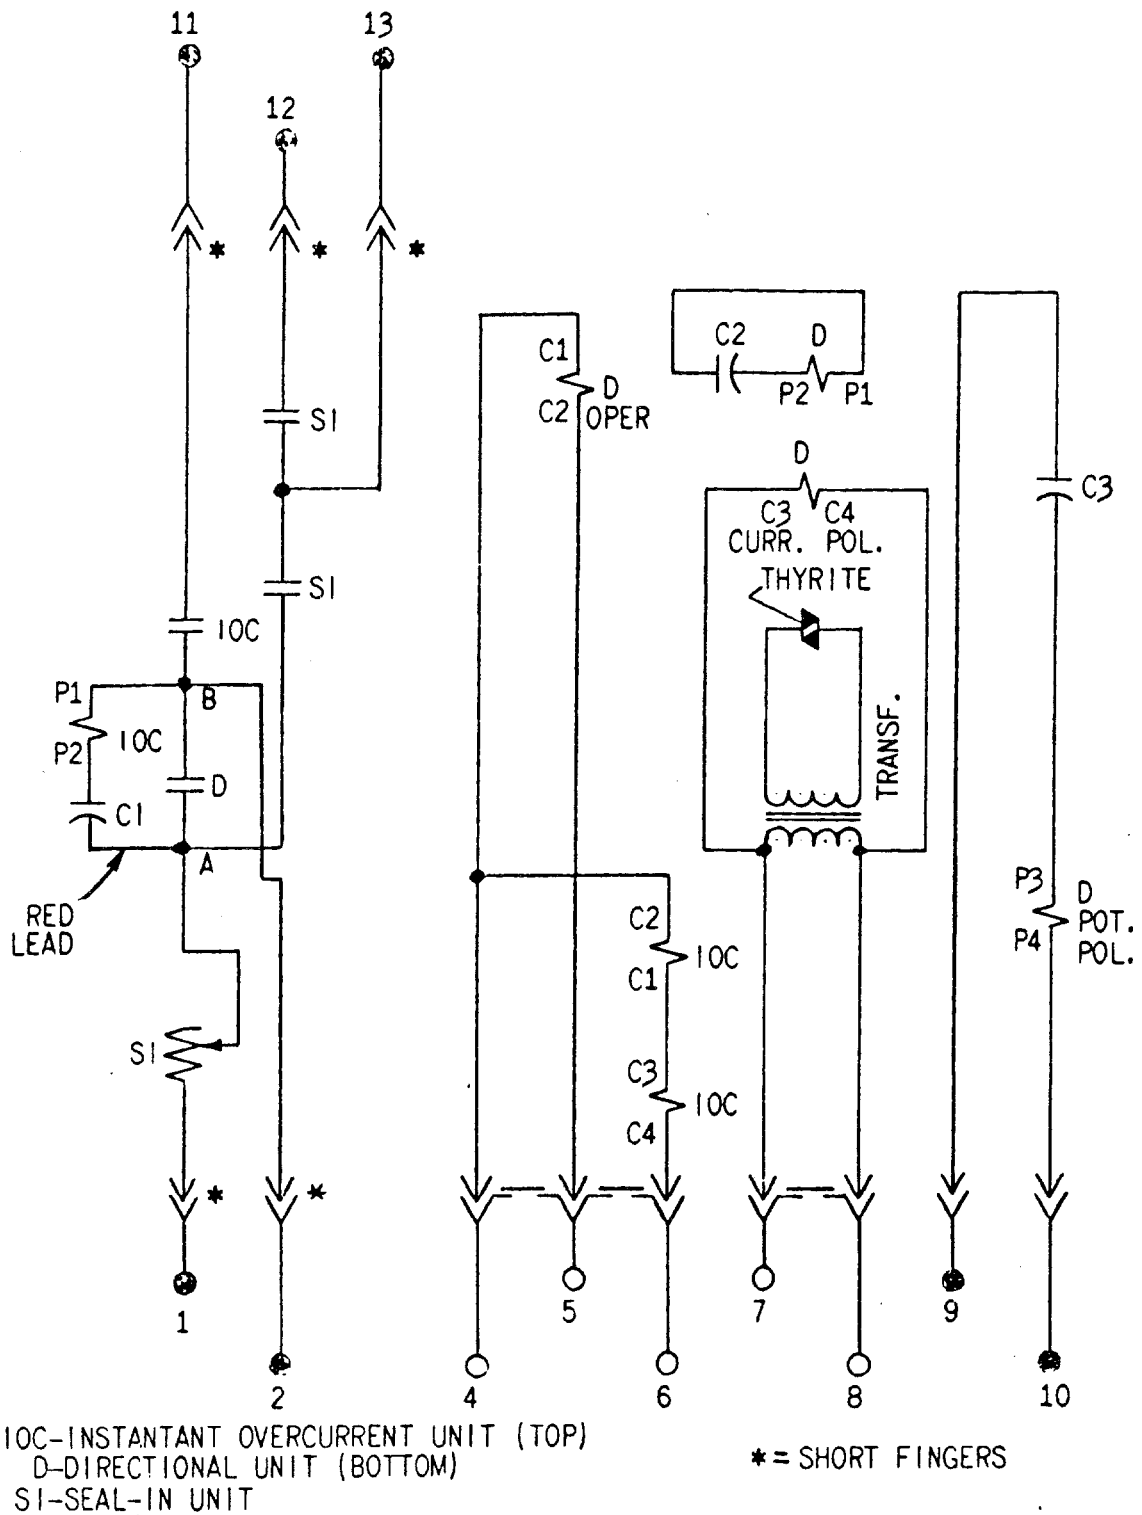

FIG. 3 (0127A9471-2) INTERNAL CONNECTIONS DIAGRAM FOR THE 12CJCG16K(-)A RELAY
2. Check that the fingers and shorting bars are correct according to the internal connection diagram of Figures 3 and 7.